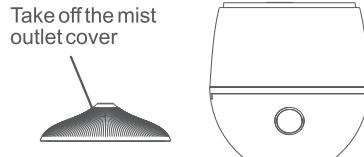

Fig.1
- 1) Take off the mist outlet cover and put it aside (see Fig.1);
When moving the humidifier, always hold the device by the base (Fig. 1), in order to avoid the fall of the part of the device, with the main electronic components. If there is water in the device, in order to avoid its entry into the electronic units through the air outlet (Fig. 2), keep it horizontal.